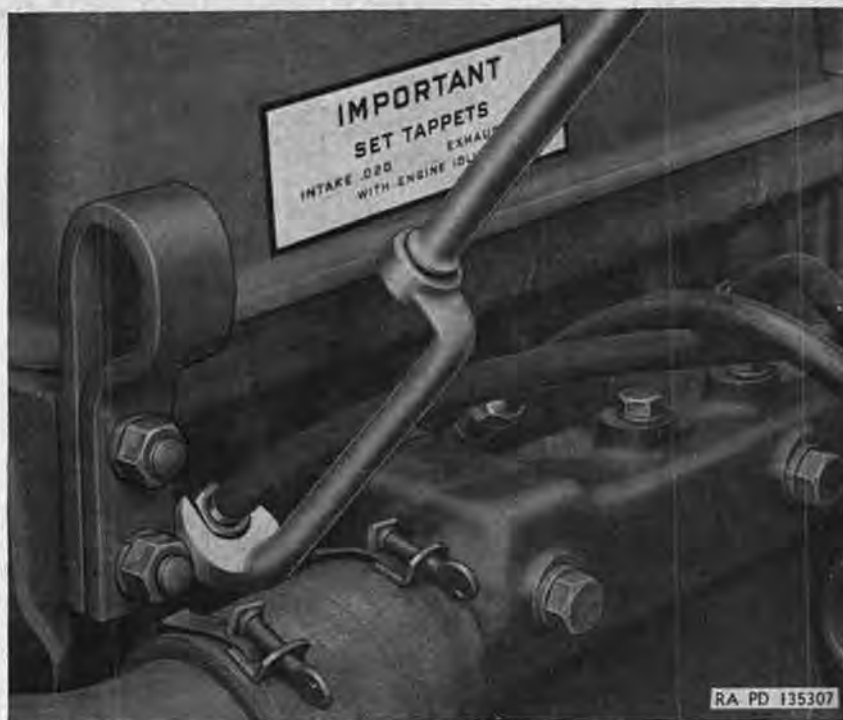

Figure 172. Removing spark plug cable.
- (fig. 172) and remove cable from plug. Install spark plug adapter in top of spark plug, position spark plug cable at end of adapter, and tighten cable retaining nut.
a. Removal. Loosen nut securing spark plug cable to No. 1 spark plug, using suitable wrench (fig. 172), and pull cable from spark plug. Unscrew plug, using spark plug wrench or deep socket, and remove plug from recess in cylinder head. Remove and discard spark plug gasket. Repeat above steps for remaining spark plugs.